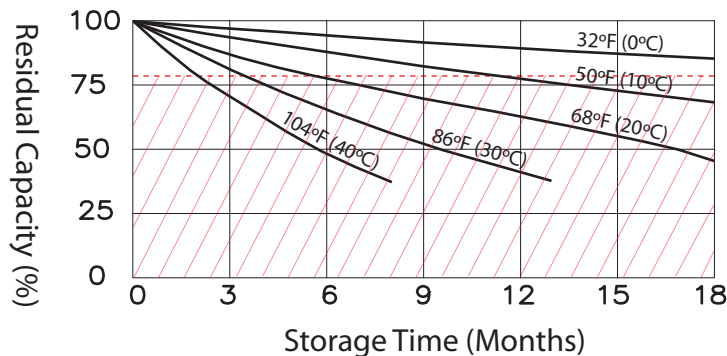

Fig. 1, Capacity vs. Storage Time
All lead acid batteries experience self-discharge while in open circuit storage. This causes circuit voltage and capacity to decrease (see Fig.1). This is especially true if the batteries are stored for long periods of time at higher temperatures. Storage of the batteries in the shaded area of Figure 1 is not recommended, as higher temperatures combined with longer periods of storage will result in diminished residual capacity — hence a shorter battery lifespan.
- It is important to track open circuit voltage which is related to the density of the electrolyte. If the open circuit voltage is lower than 12.6V or the batteries have been stored beyond the limits shown in Figure 1, the batteries should be charged to avoid damage caused by self-discharge.